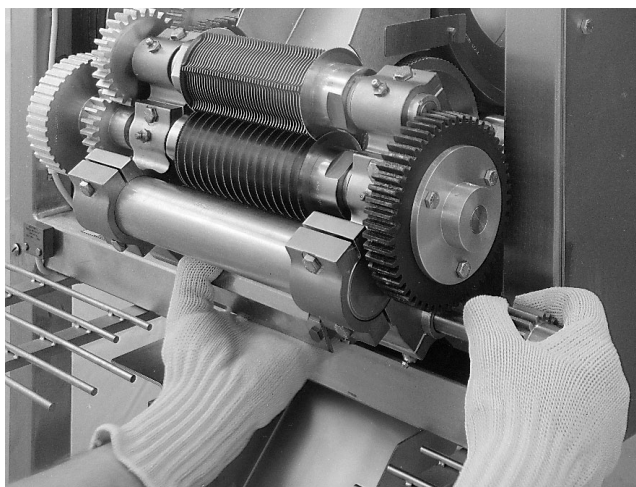

Figure 27 — Removing crosscut knife spindle
2. **Remove crosscut knife spindle.** Loosen set screws in spindle. Hold spindle while removing shaft and gear (Figure 27). Lower spindle from machine and set aside on a surface that will not damage the knives, bracing it to prevent it from rolling.